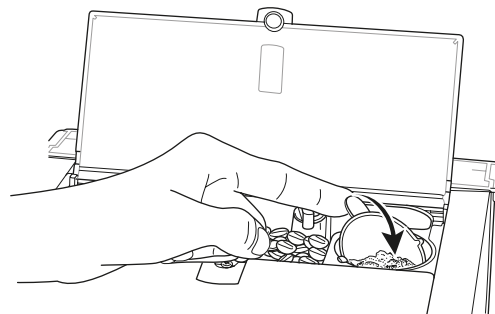

Fig. 7: Tipping over the powder dosing chamber
5. Turn the powder dosing chamber over (Fig. 7).